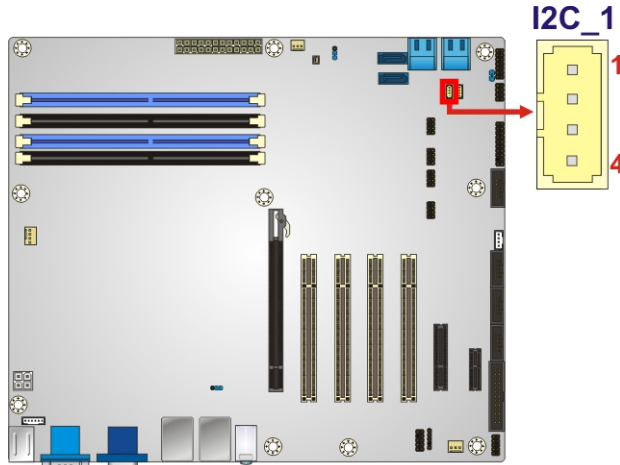

Figure 3-11: I2C Connector Location
- CN Location:** See Figure 3-11